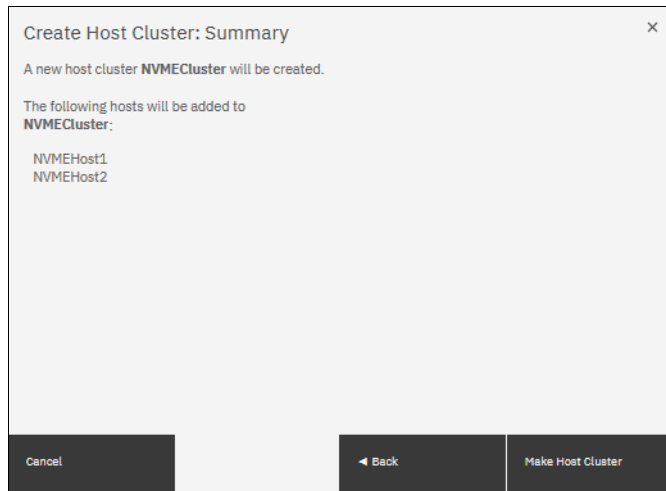

Figure 7-29 Create Host Cluster: Summary
4. A summary opens in which you can confirm that you selected the correct hosts. Click **Make Host Cluster** (see Figure 7-29).